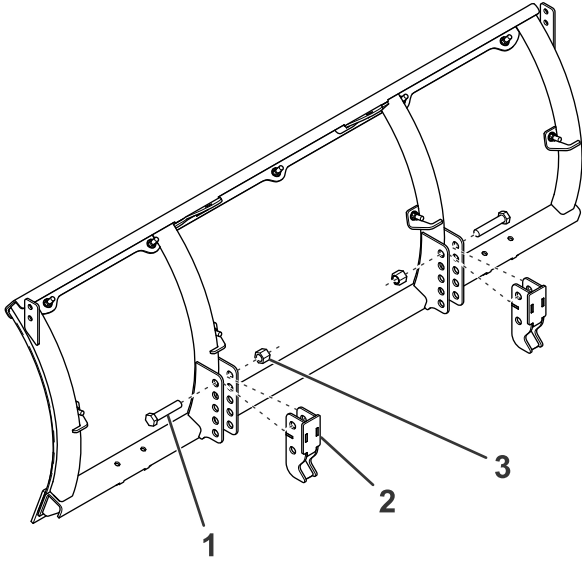

Figure 3
1. Loosely secure the 2 mounting brackets to the plow using 2 bolts (5/8 inch) and nuts (Figure 3).